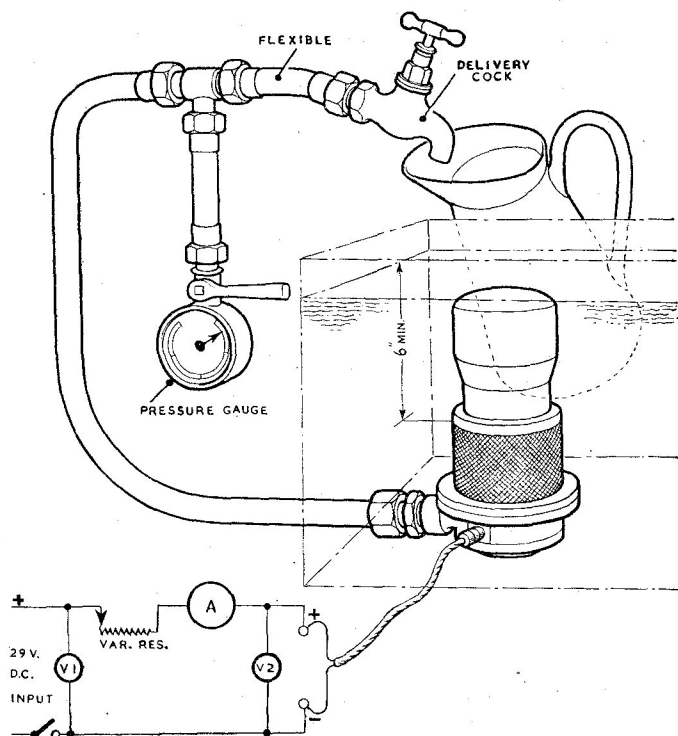

Fig. 6. Temporary test rig
22. Test the motor for power output on 24 volts and on 29 volts by means of a torque tester such as described in A.P. 4343, Vol. 6, Sect. 16, Chap. 1, App. 1. Fit a 1 inch radius pulley to the impeller shaft, place weights in the balance pan to cause the balance pointer to register, say 16 oz., and connect the motor to a 29-volt d.c. supply through a circuit similar to that shown in fig. 6.
33. A suitable test rig capable of testing this and other similar pumps is being developed and will be described in A.P.4343S, Vol. 1, Sect. 10. Pending the issue of this information, a simple temporary test rig on the lines of that shown in fig. 6 may be set up.